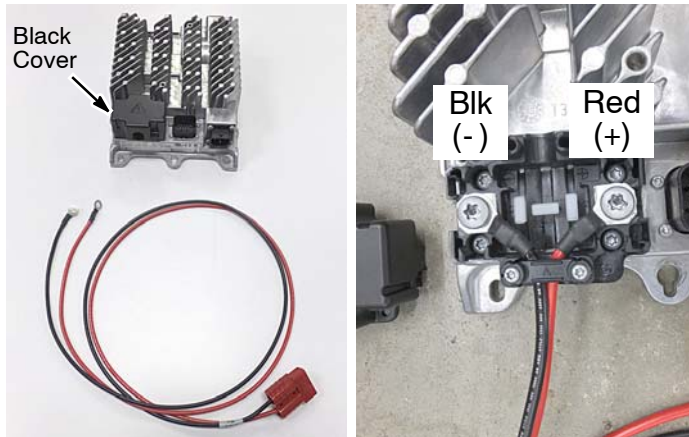

FIG. 21
7. Remove the black cover from new charger and connect charger cables to charger as shown (FIG. 21). Replace cover.